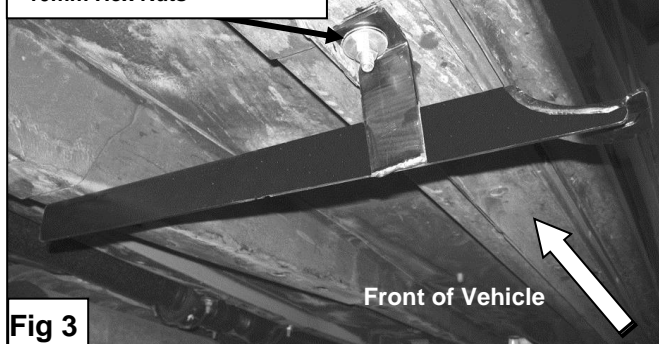

Fig 3
3. Partially hang driver side front Mounting Bracket to already inserted Bolt Plates using the included (2) 10mm Hex Nuts, (2) 10mm Lock washers, and (2) 10mm Flat Washers (**Figure 3 & 4**).